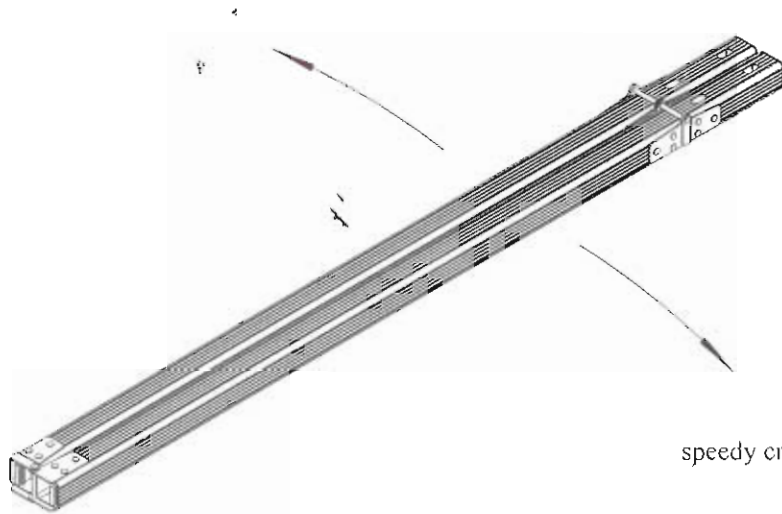

fig 10
1. Remove the AT-leg from its case and wrapping (as fig 10).